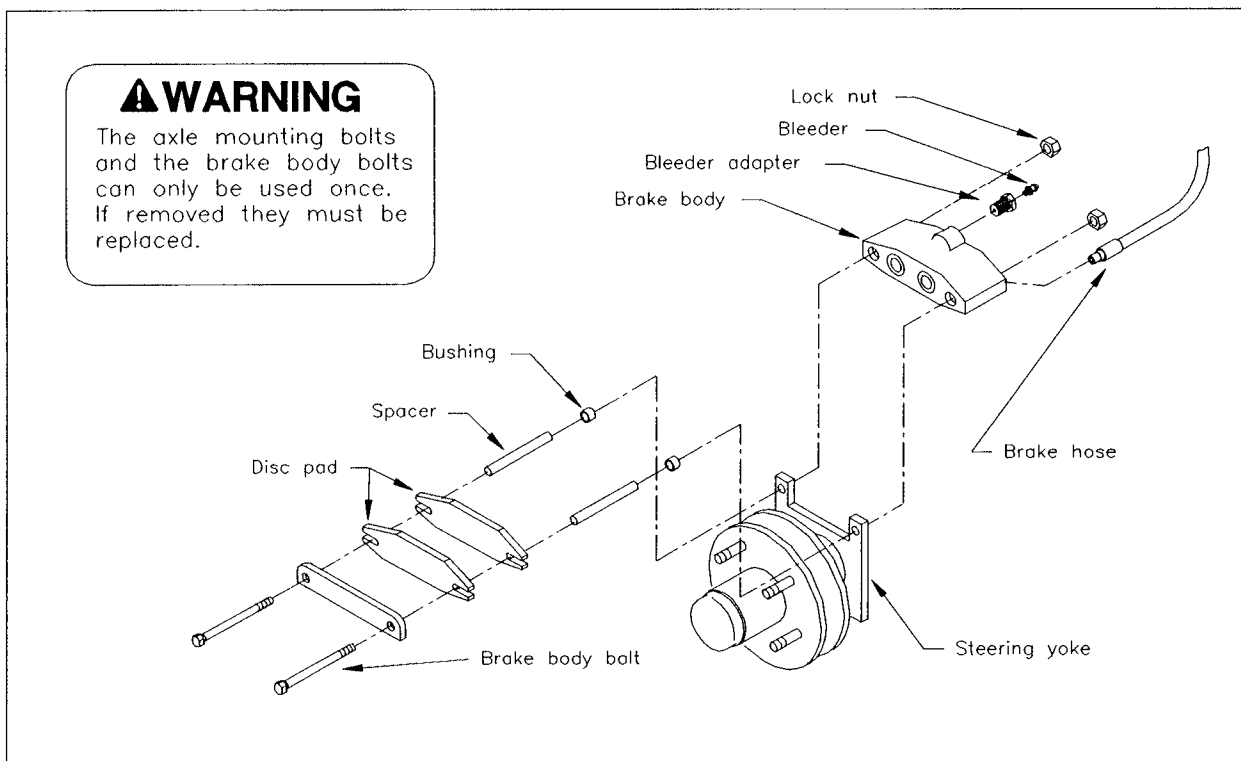

Figure 3-4
- Remove the two 1/4" brake body bolts (see figure 3-4).